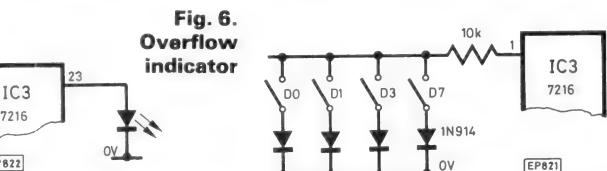

Fig. 6.
- 4) If an i.e.d. is connected between pin 23 and ground, it acts as an overflow indicator (see Fig. 6).